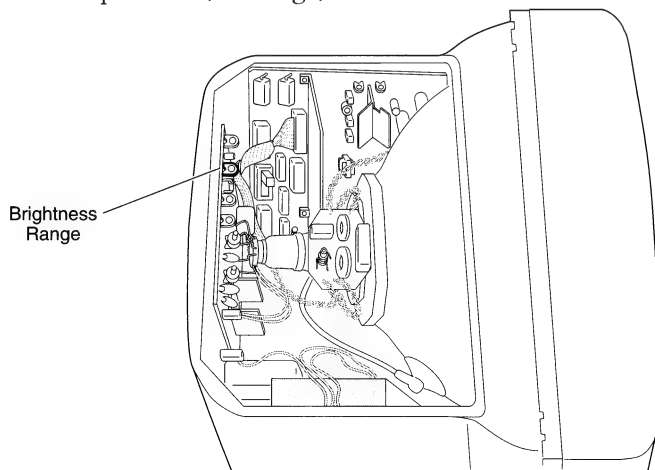

Figure 10 Brightness Range Control
9. FIGURE 10. Adjust the Brightness Range control until the luminance at the center of the screen reads at low "10" on the light meter.